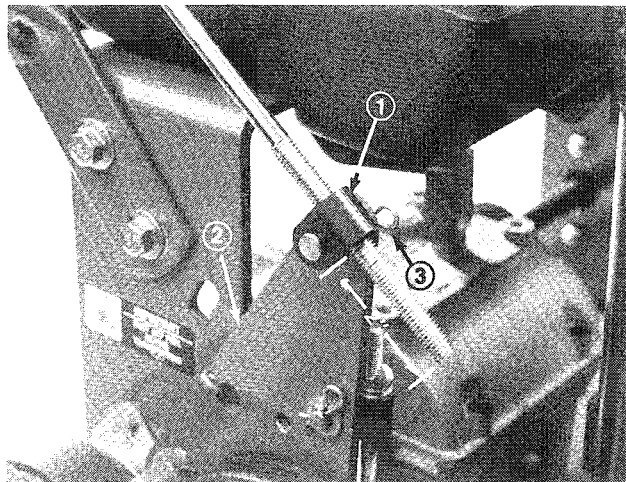

Figure 10
1. Thread a rod fitting onto each control rod approximately 2" (Fig. 10).
2. Mount rod fitting ends to mounting holes in idler brackets (from outside) with clevis pins, washers and hairpin cotters (Fig. 10).